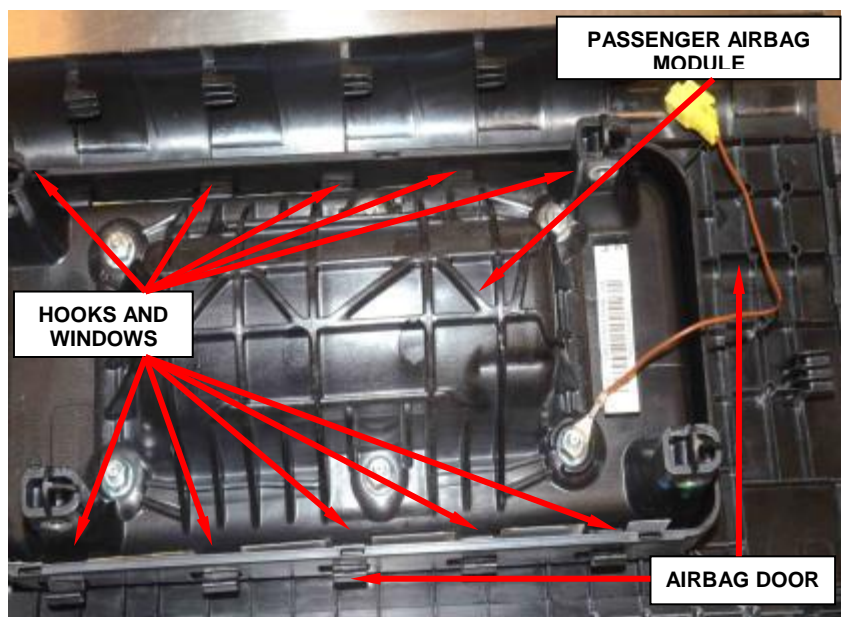

Figure 156 – Release Passenger Airbag Module
21. Release the passenger airbag module hooks from the airbag door windows (Figure 156).